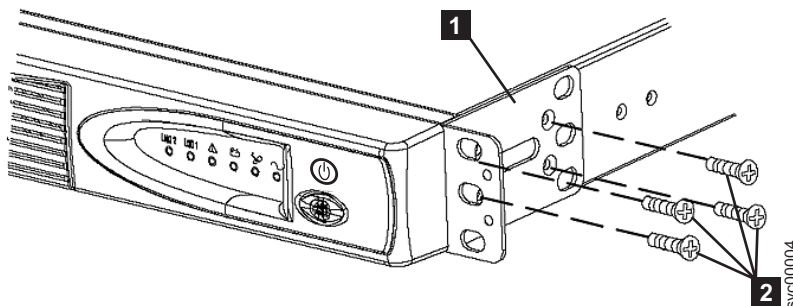

Figure 216. Installing the support rails for a 2145 UPS-1U into the rack
3. Attach the long side of a mounting bracket **1** to each side of the 2145 UPS-1U using four M3 × 6 screws **2** for each bracket, as shown in Figure 216.